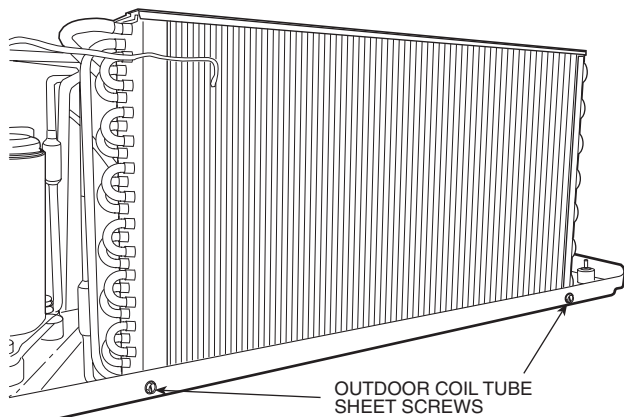

FIGURE 16 — LOCATION OF OUTDOOR COIL TUBE SHEET SCREWS
- b. Remove 2 outdoor coil tube sheet screws using a Phillips head screwdriver. See Figure 16.